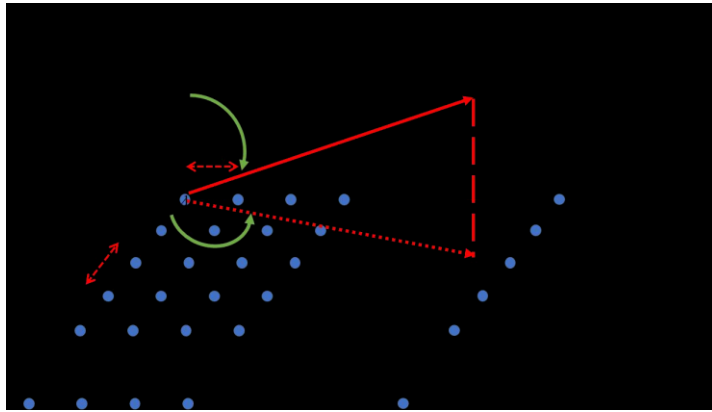

Figure 4 N X M Element Planar Array
Similar to linear array, planar arrays have the same logic for the calculation of the array factor. Figure 4 shows a planar array with N elements in y-axis and M elements in x-axis. The interelement spacing is d_x for the x axis, and d_y for the y axis. If we assume that the array is uniform in both axes, the array factor is given in equation (2). “N” is the number of antennas in y-axis, “M” is the number of antennas in x-axis, “k” is the wave number, “ θ ” is the angle between the wave and the “z” axis, “ ϕ ” is the angle between the wave and the “x” axis, and “ β_x ” is the phase between the elements in x- axis and “ β_y ” is the phase between the elements in y-axis.